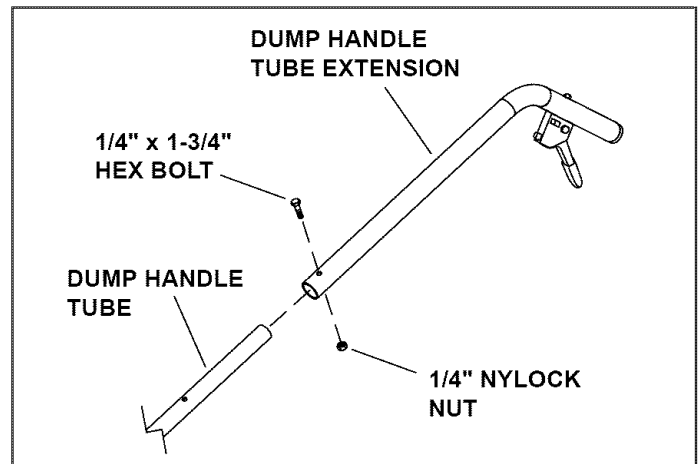

FIGURE 14
- Install the dump handle tube extension on the dump handle tube using a 1/4" x 1-3/4" hex bolt and 1/4" nylock nut. See figure 14.